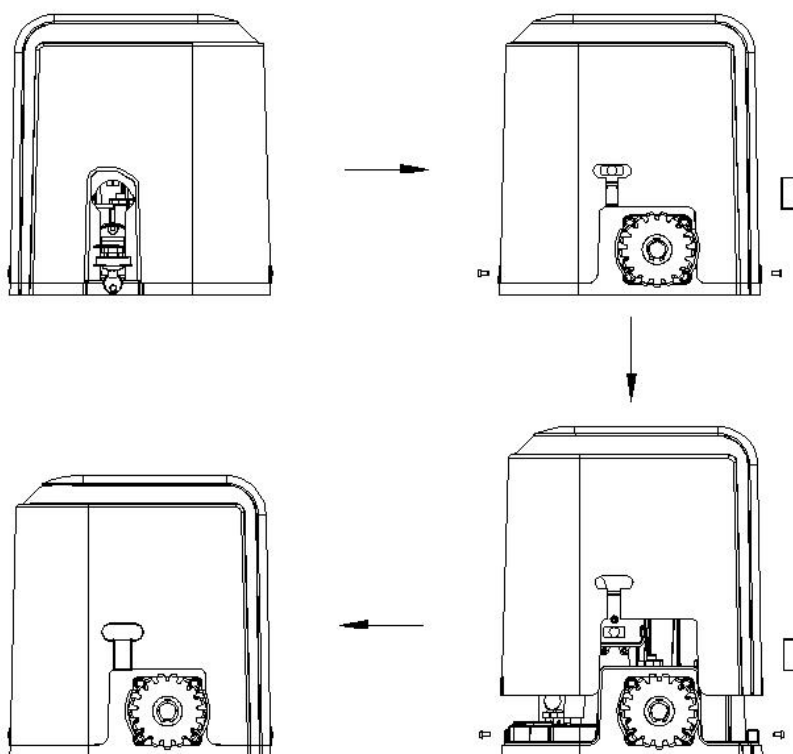

Figure 7
- Remove the rubber grommet below the limit switch (Figure 7) (Removal required for spring limit) .